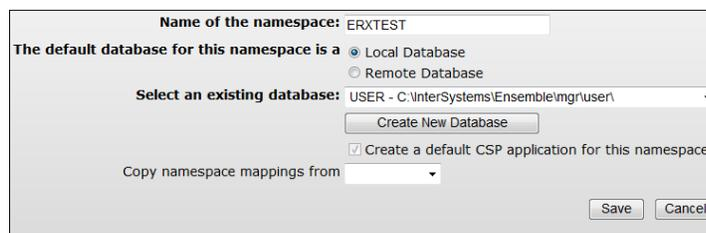

Figure 3-7: Create New Namespace dialog
13. Click **Finish**. The **Create New Namespace** dialog displays as shown in (Figure 3-7):